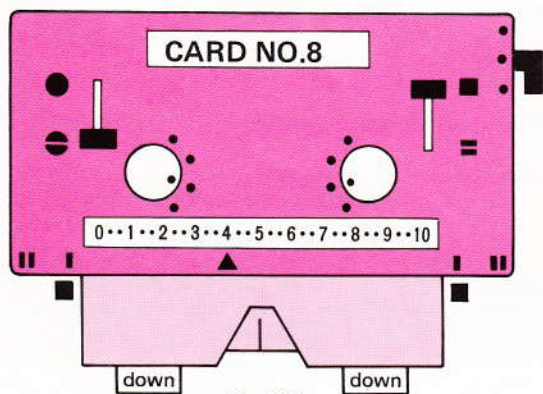

Fig. 128
- Set the carriage as in fig. 128. Take the yarn out of thread mouth and leave it at the end of the needle bed.